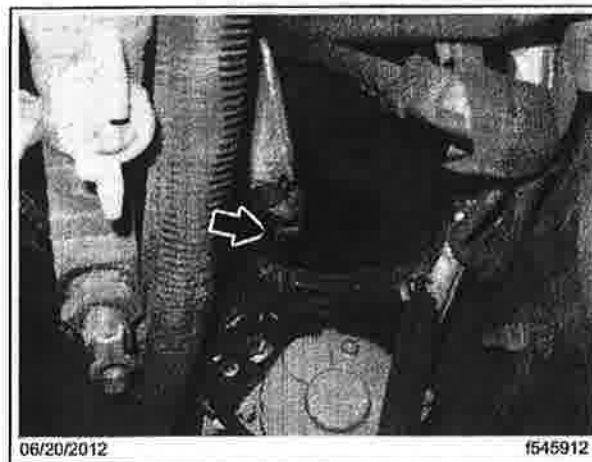

Fig. 1, Broken Fuse
6. Remove the fuse and fuse holder from the starter. If the fuse holder is broken, remove the broken piece from the power stud. See **Fig. 1** for an example of a broken fuse.